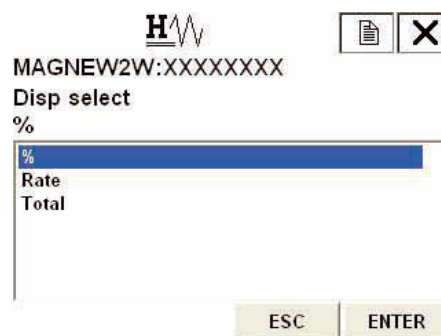

Figure 7-14
Figure 7-14 will then be displayed.
2. Once the display as shown in Figure 7-14 appears, move the arrow key up or down to select a display. After making a selection, press F4 (ENTER). % / Rate / TOTAL can be selected. If F3 (ESC) is pressed here, the selection will be canceled and the display will return to the basic menu.